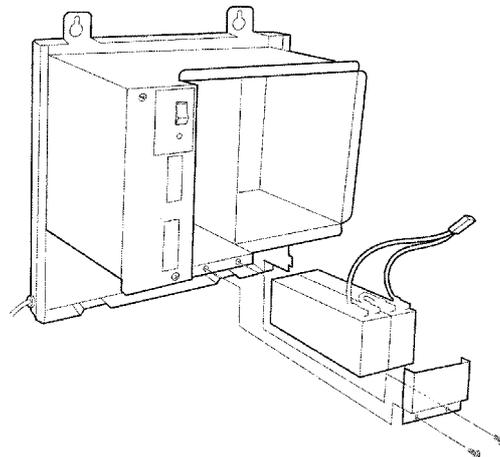

Figure 4-44 Installing the Batteries in the KSU
2. Slide the batteries into the bottom space at the left side of the KSU, and install the battery cover as illustrated in *Figure 4-44 Installing the Batteries in the KSU*.